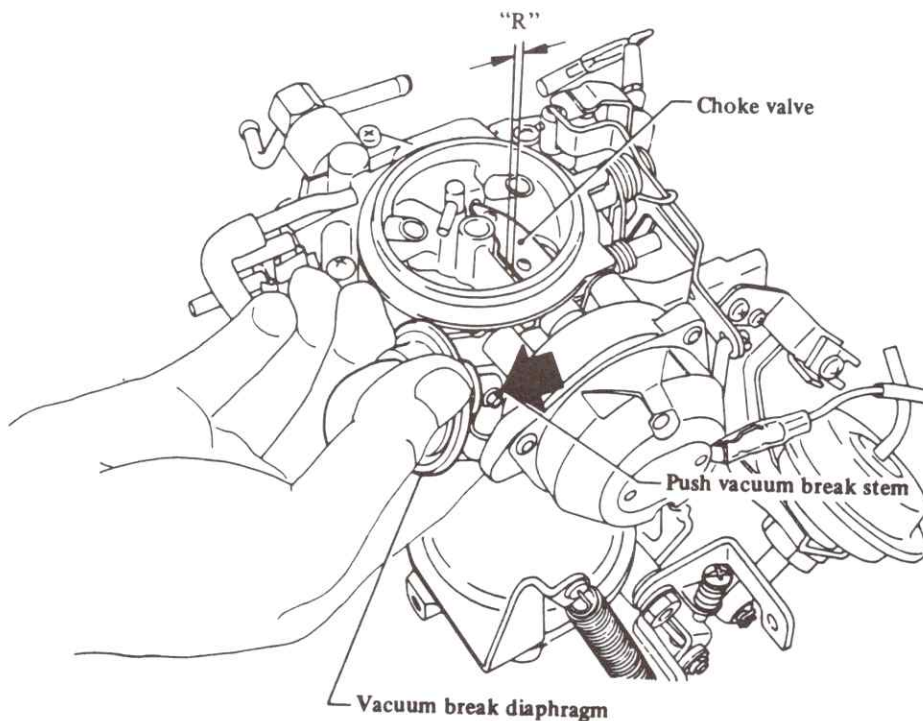

Fig. 3.10 Checking vacuum break adjustment (Sec 11)
- 7 Depress the diaphragm rod fully and then check the clearance R is as specified (Fig. 3.10). The clearance is measured between the edge of the valve plate and the wall of the carburettor. To adjust bend the choke lever.